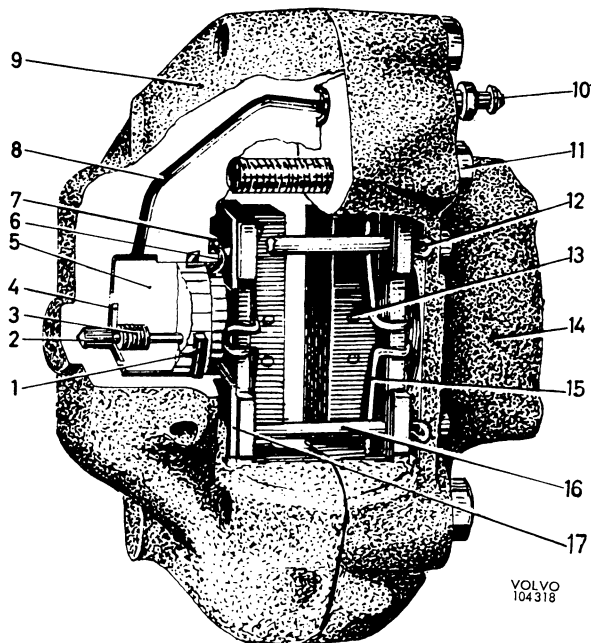

Fig. 5-10. Rear brake caliper, early prod
The rear wheel brake caliper is mounted to the rear axle casing with the help of a retainer. It houses the wheel unit cylinders and brake pads. It consists of a housing divided in two halves (9 and 14, Fig. 5-10) bolted together and located on either side of the brake disc. Each half contains a piston and a cylinder linked by means of a channel in the housing.
disc occasioned by lateral cast (due to the axial play of the drive shafts when driving round bends or on rough ground). The A.S.B. device prevents a reduction in the pedal travel (that is, the distance from the pedal position at full brake application to the floor plate). The A.S.B. device consists of the following (see Fig. 5-10): A spring (3), a washer (4)
3. Remove the hairpin-shaped retaining clips for the guide pins, see Fig. 5-10. Pull out one of the retaining pins while keeping the damping springs in position. Remove the springs and the other retaining pin. Pull out the pads and the spacers.